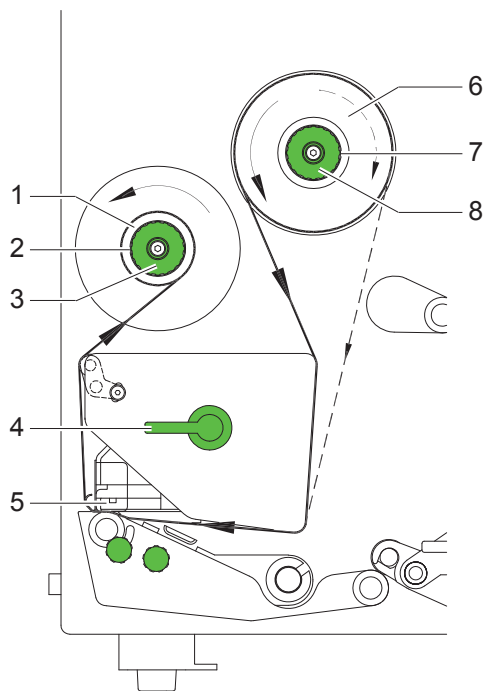

Fig. 8 Loading transfer ribbon
2. Turn lever (4) counterclockwise to open the printhead.
3. Slide transfer ribbon roll (6) onto the ribbon supply hub (7) until it stops and so that the color coating of the ribbon faces downward when being unwound.
4. Hold transfer ribbon roll (6) firmly and turn knob on ribbon supply hub (8) counterclockwise until the transfer ribbon roll is secured.
5. Slide suitable ribbon core (1) onto the transfer ribbon take-up hub (2) and secure it in the same way.
6. Guide transfer ribbon through the print unit as shown in the figure 8.
7. Secure starting end of transfer ribbon to the transfer ribbon core (1) with adhesive tape. Ensure counterclockwise rotation direction of the transfer ribbon take-up hub here.
8. Turn transfer ribbon take-up hub (2) counterclockwise to smooth out the feed path of the transfer ribbon.
9. Turn lever (4) clockwise to close the printhead.